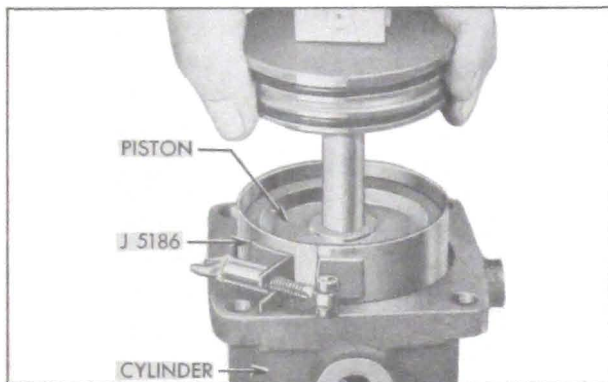

Figure 8-33—Installing Piston With Ring Compressor
23. Use Ring Compressor J 5186 to compress the piston rings, then install piston and adapter in power cylinder. See figure 8-33. It may be necessary to tap the end of power rack with a soft mallet to push rings through the compressor and into cylinder. Tap the adapter down flush with cylinder flange.